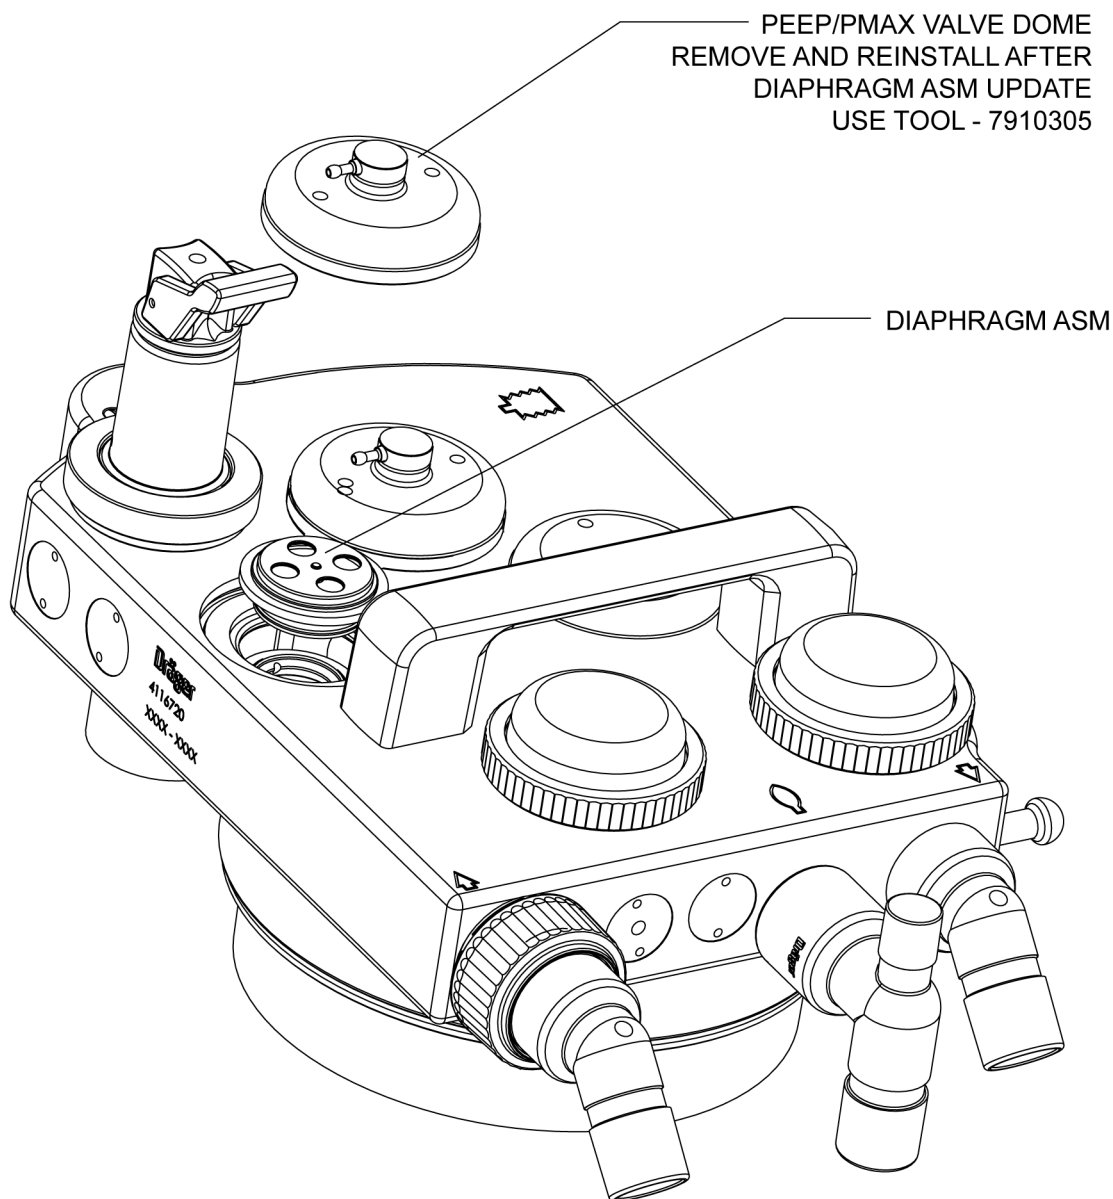

Fig. 1 PEEP/Pmax Valve Replacement
3. Using a two-hole spanner wrench (7910305) remove the PEEP/Pmax valve dome from the breathing system. See Fig. 1.
1. Remove the existing PEEP/Pmax valve assembly and install the replacement assembly as shown in Fig. 1.